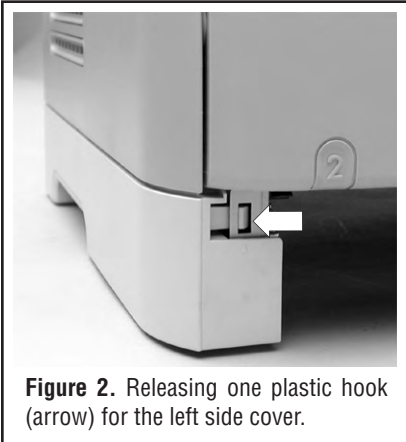

Figure 2. Releasing one plastic hook (arrow) for the left side cover.
2. Release one plastic hook from the left front corner as shown in Figure 2.